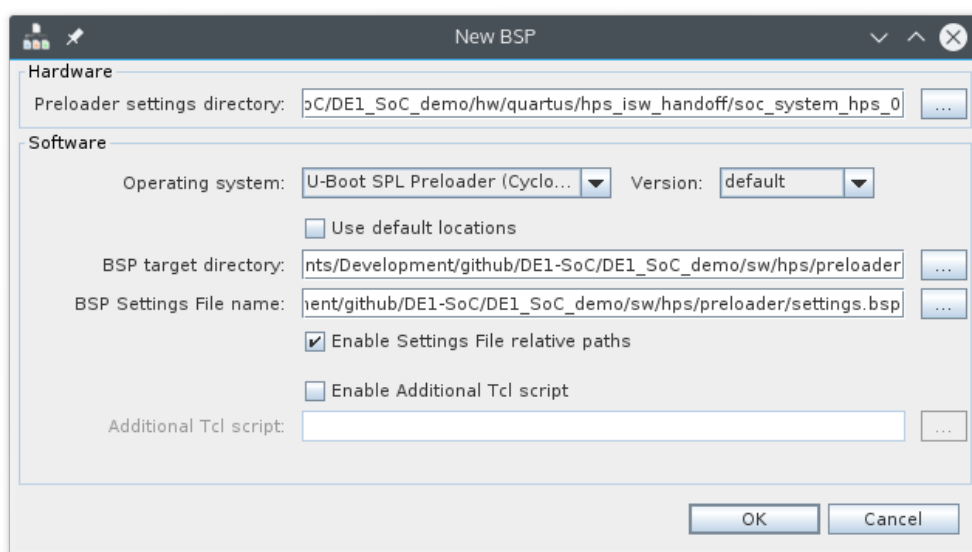

Figure 8-26. New BSP Dialog
- b. Disable the “Use default locations” checkbox and under the “BSP target directory”, select the “DE1_SoC_demo/sw/hps/preloader” directory. You should have something similar to Figure 8-26.